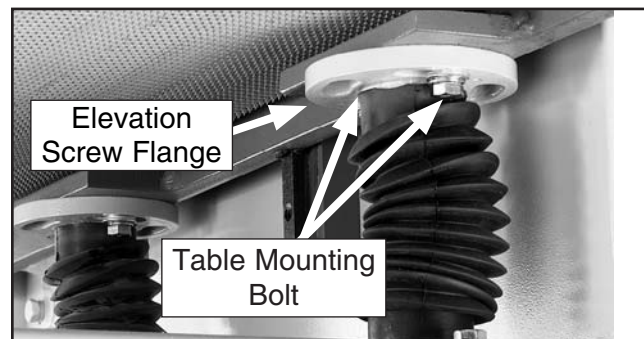

Figure 61. Table mounting bolts.
- Loosen the table mounting bolts on the flange (see **Figure 61**), then rotate the flange a small amount to the right to raise or to the left to lower that corner of the table so it is within 0.003" of the frame.